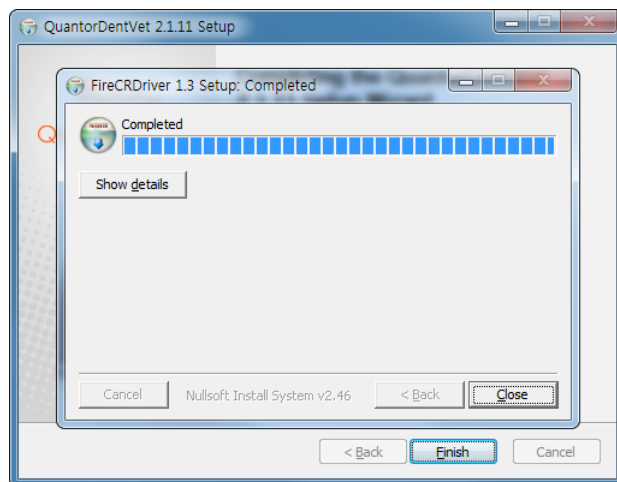

Figure 2.7 Installation of **FireCR** USB Driver
- Installation status of the **FireCR** USB driver will be displayed as shown in Figure 2.7.